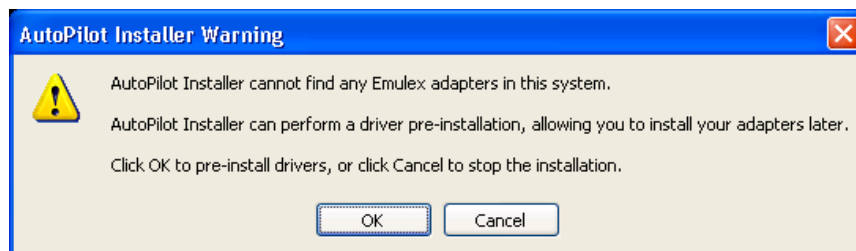

Figure 2-1 AutoPilot Installer Warning (Software-First Installation)
1. Run AutoPilot Installer using one of the two options listed in “Running a Software Installation Interactively” on page 21. The warning in Figure 2-1 appears: